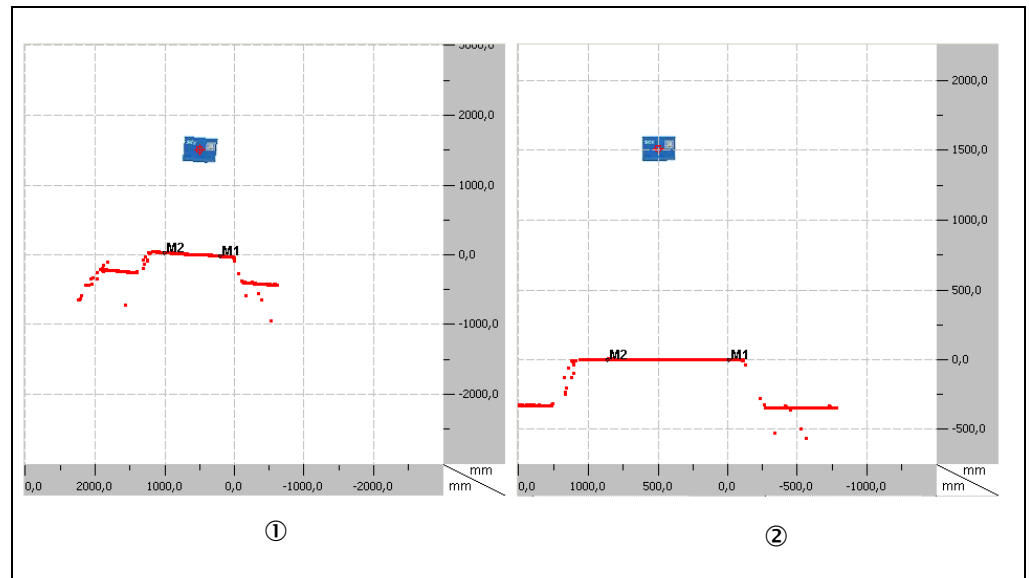

Fig. 26: Example scanned conveyor system
- Position two marks using the right mouse button (M1 and M2). Ensure that the marks are as close as possible to the right and left edge of the conveyor system (see Fig. 26 ①).
The angle γ and the Z coordinate are calculated and the scan line drawn horizontally in the diagram (see Fig. 26 ②).